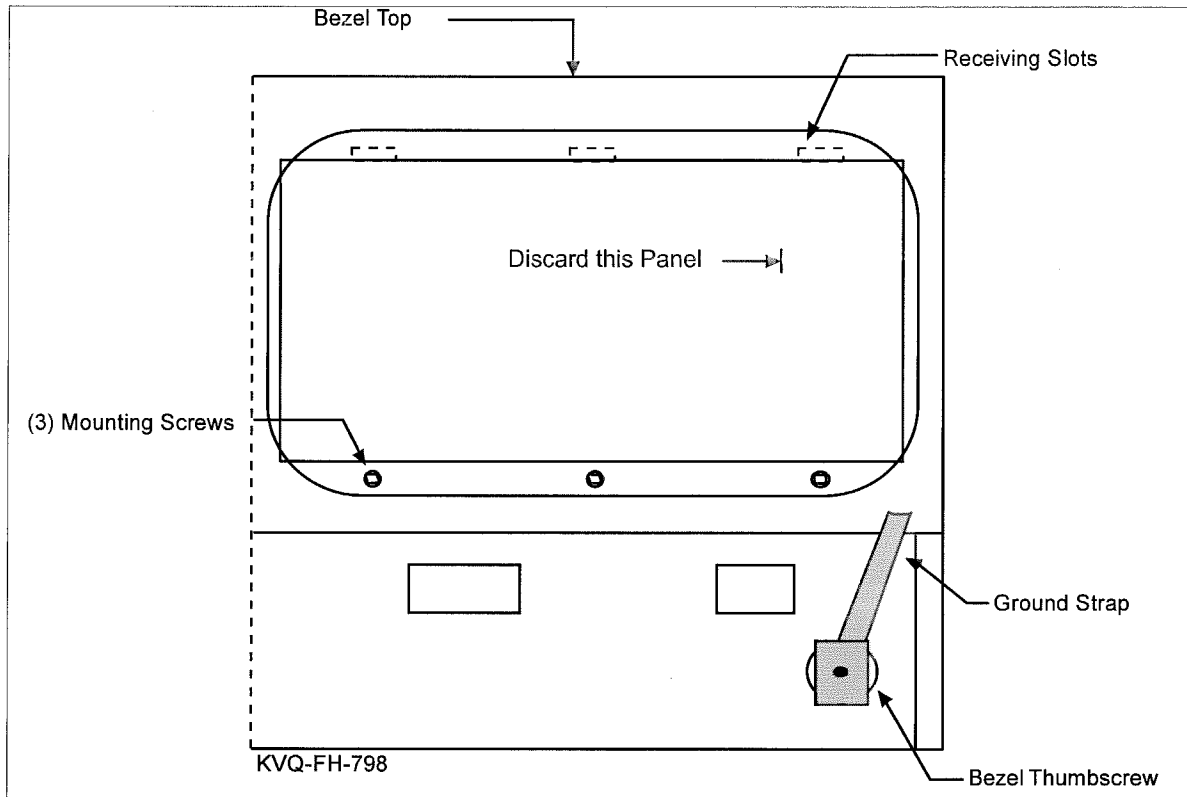
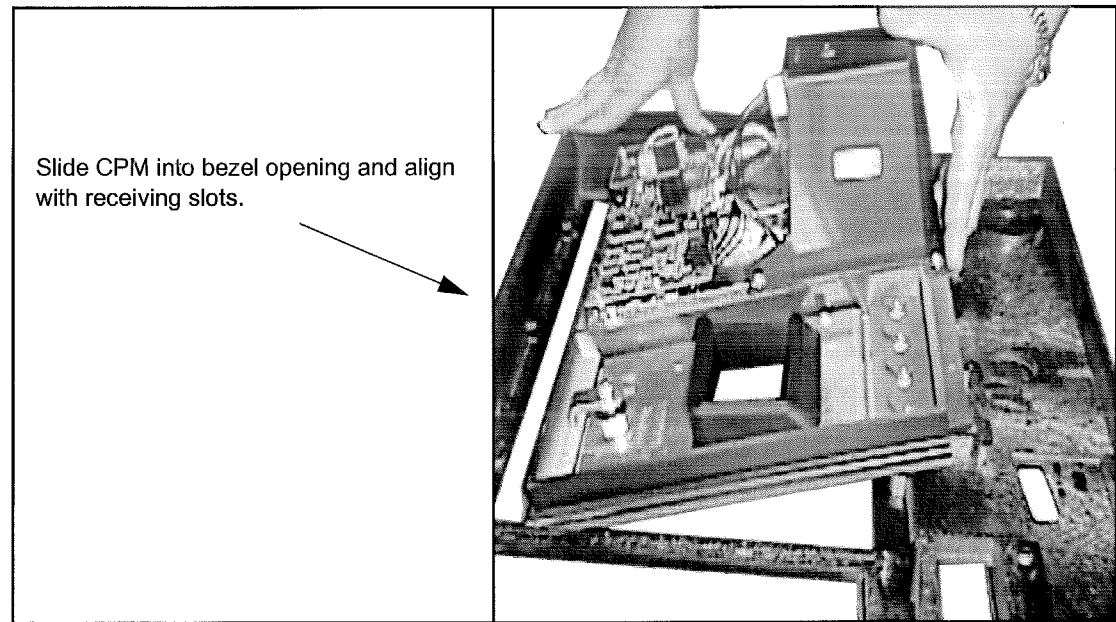

Figure 3-1 Blank Bezel Panel
Figure 3-2 Inserting CPM into Bezel Receiving Slots
Refer to Figure 3-1 on the following page when performing steps 2 and 3.
1. Set the CPM into the bezel by inserting it face down and under the receiving slots shown in Figure 3-1 and Figure 3-2.